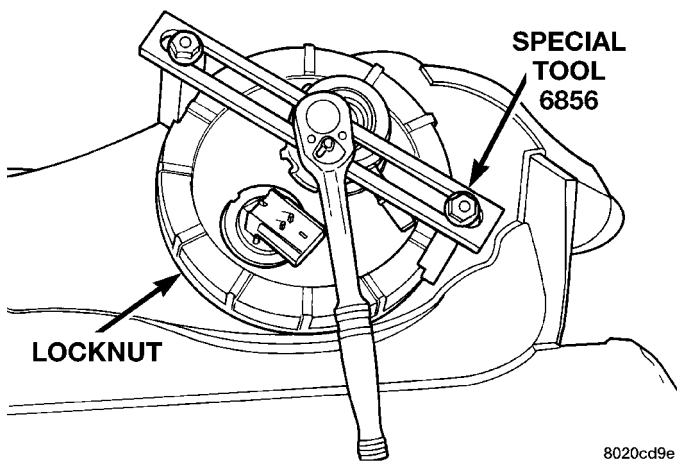

Fig. 18 Fuel Tank Locknut
(2) Disconnect fuel line from fuel pump module by depressing quick connect retainers with thumb and fore finger.
(3) Slide fuel pump module electrical connector lock to unlock.
(4) Disconnect the electrical connection from the fuel pump module, by pushing down on connector retainer and pulling connector off of module.
(5) Use a transmission jack to support the fuel tank. remove bolts from fuel tank straps.
(6) Lower tank slightly.
(7) Use Special Tool 6856 to remove fuel pump module locknut (Fig. 18).
(8) Remove fuel pump and O-ring seal from tank. Discard old seal.
(4) Tighten the locknut using Special Tool 6856 to 55 N·m (40.5 ft. lbs.) (Fig. 18).